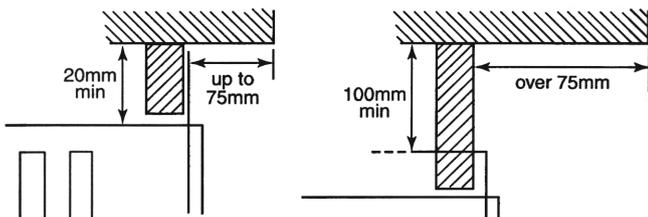

Fig. 1
- If the overhang above the heater is greater than 75mm, then a distance of at least 100mm must be maintained between the overhang and the uppermost part of the heater (see Fig. 1 below).